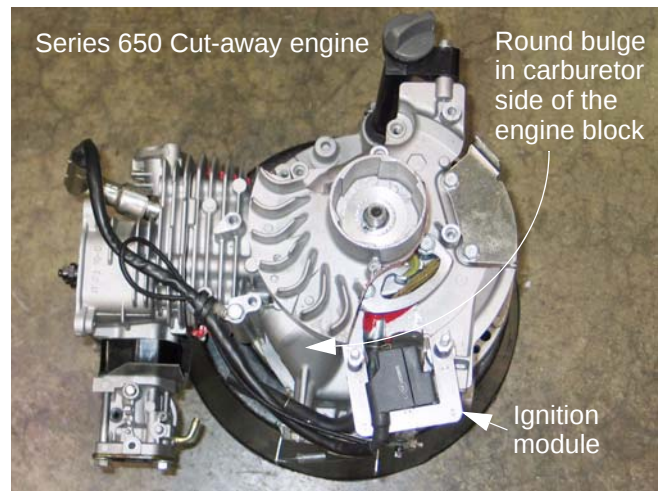

Figure 1.6
- 1.6. The major castings and some architecture of the Series 650 differs from the two smaller engines. See Figure 1.6.
- The module is mounted about 90 degrees from the cylinder on the Series 650 engine blocks. See Figure 1.6.